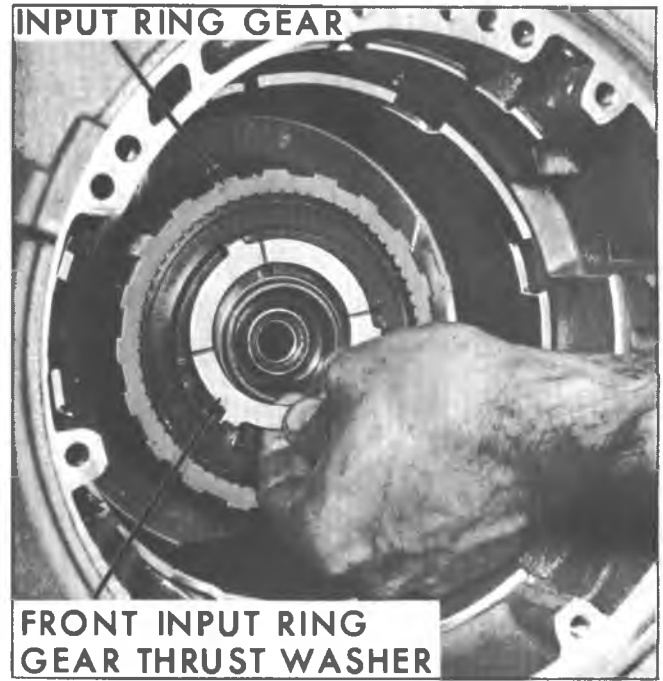

Fig. 7A-36B--Removing Input Ring Gear Front Thrust Washer
8. Remove input ring gear front thrust washer (fig. 7A-36B). Washer has 3 tangs.